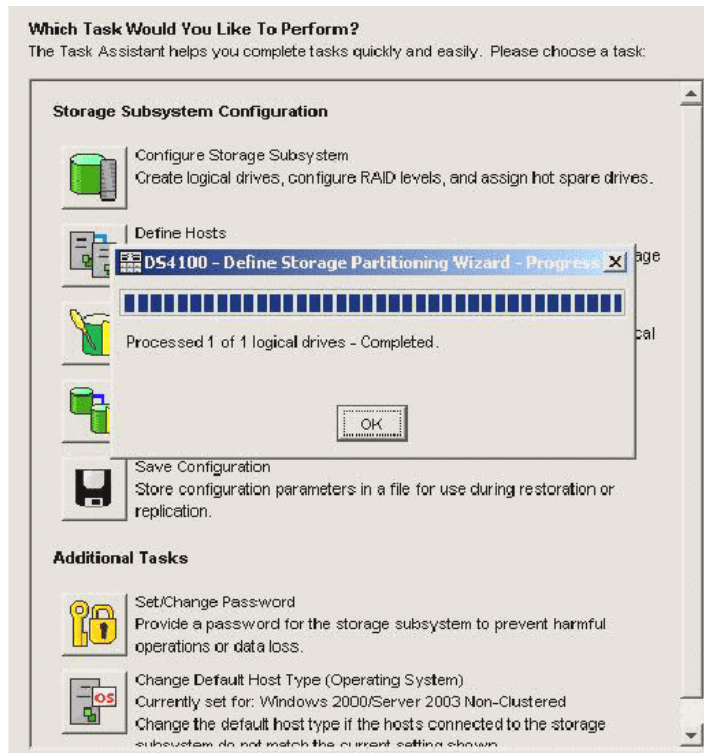

Figure 9-59 Define Storage Partitioning Wizard - Processing window
28. Click **Finish** to complete the logical drive mapping. You will see a window similar to Figure 9-59.